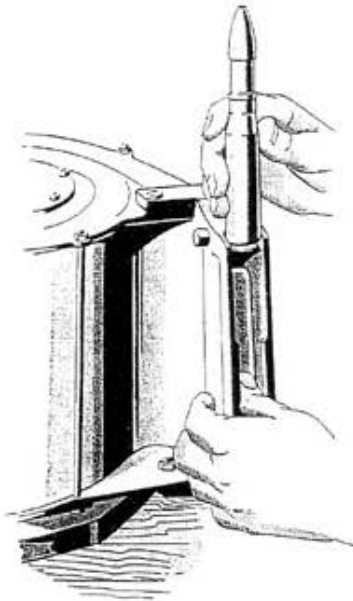

Figure 53—Hold feeder back just far enough to insert one cartridge
7. After a cartridge is inserted, press by hand against it, moving it back far enough to insert one or two cartridges. See Figure 53. Continue inserting cartridges until the magazine is full. Capacity of magazine is 60 cartridges.